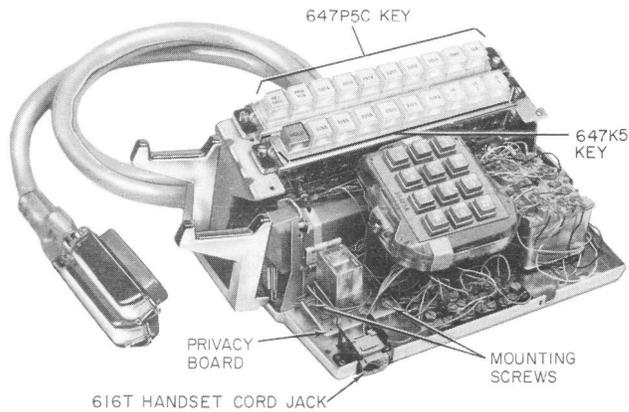

Fig. 2—2833BM Telephone Set Base
handset and H4DU-50 handset cord which will plug into a 616T jack mounted on the left front of the telephone set base (Fig. 2). Current production models of these sets also are equipped with an improved line switch and an automatic button restoral (ABR) feature. Some early production BM and CM sets were not so equipped.
2.02 The 833B (MD), or 833BM, 833DM and 2833B (MD), or 2833BM, 2833DM telephone sets are equipped with a 647K5 key in the lower key position consisting of a hold button, six line buttons, and three intercom buttons. A 647P5C key is located in the upper key position consisting of a RECALL button, a Privacy Release (PRIV RLS) button, and eight line buttons. The privacy circuit board is factory installed and wired (Fig. 2).
(1) Mount privacy circuit board on the two standoffs located at the left front of the telephone set base (Fig. 2) using mounting screws furnished with the telephone set.
(2) Refer to Table C for connections.
(3) To test privacy circuit refer to 3.06.